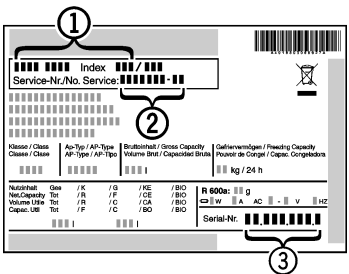

Fig. 7
- Fig. 7 (1), service No. Fig. 7 (2) and serial No. Fig. 7 (3)* off the type plate located inside the appliance on the left-hand side.
- ▶ Notify the customer service, specifying the fault, appliance designation *Fig. 7 (1), service No. Fig. 7 (2) and serial No. Fig. 7 (3).*